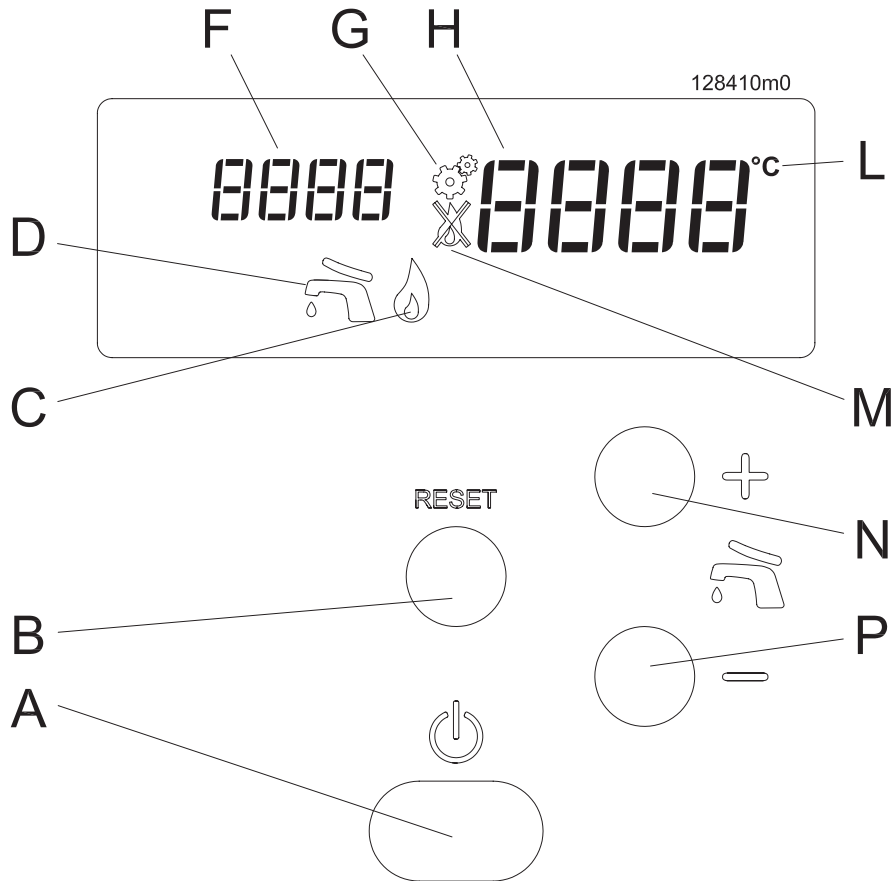

Figure 7-1 - Control board
1. turn the power switch (item "A" in Figure 7-1) to on;
Key for figure 7-1
Entry into the "User menu" is highlighted by the visual display "F", in figure 7-1, which indicates parameters that can assume
operating on the  **+** and  **-** keys. On pressing one of the two keys, the visual display "H" in figure 7-1 will start to flash and show the temperature that is being set. The range of adjustment for the temperature of the domestic hot water goes from 40°C to 60°C. For higher output temperatures, contact your technician to change the maximum output temperature factory setting, see section 11.
a.- press the RESET key to access the parameter (the visual display “H” in figure 7-1 will start to flash);